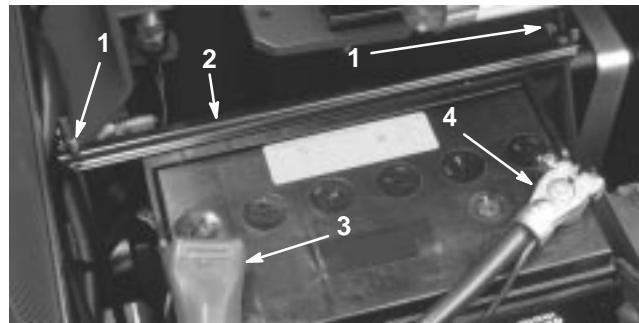

Figure 6
2. Remove two wing nuts and hold down strap that secures battery (Fig. 6). Lift battery out of chassis. Keep wing nuts and hold down strap in safe place for later use.
1. Install battery and secure with hold down strap and wing nuts (Fig. 6). Remove tape over ends of each cable.
2. Slide the red, positive battery cable (Fig. 6) onto positive battery post and tighten nut securely.